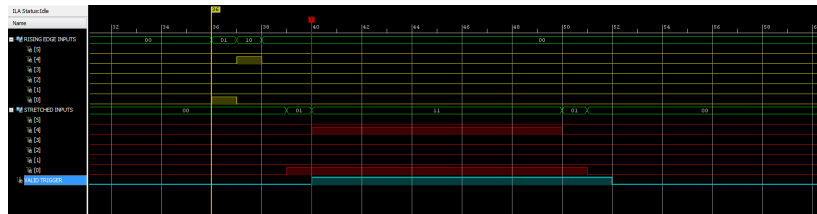

Figure 4.3: Trigger configuration 0x00020002. The valid trigger (blue) is asserted if *in0* is high OR when *in0* and *in4* are both high at the same time.
- Trigger **LSB** word= 0x00020002. This indicates that a valid trigger is achieved in two separated configurations (in logic OR): when both inputs are high at the same time (as in the previous case) or if *in0* is active on its own. This is illustrated in figure 4.3. It can be seen that the valid trigger is asserted immediately one clock cycle after *in0* is high and remains high as long as this condition is met. One might assume that specifying the combination with input 4 is redundant, but the following example should show that this is not the case.